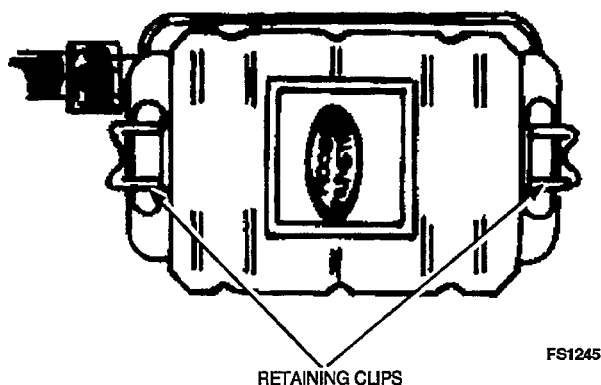

FIGURE 4-6. FUEL FILTER ASSEMBLY
3. Remove the filter retaining clips. See Figure 4-6.